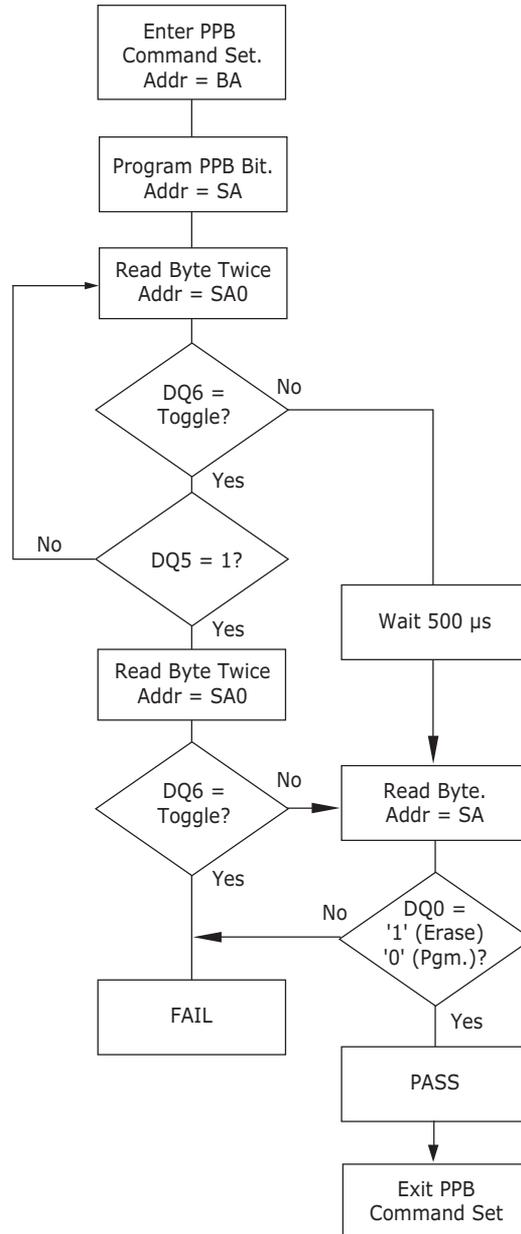

Figure 8.2. PPB Program/Erase Algorithm
10. The programming state of the PPB for a given sector can be verified by writing a PPB Status Read Command to the device as described by the flow chart shown in Figure 8.2.